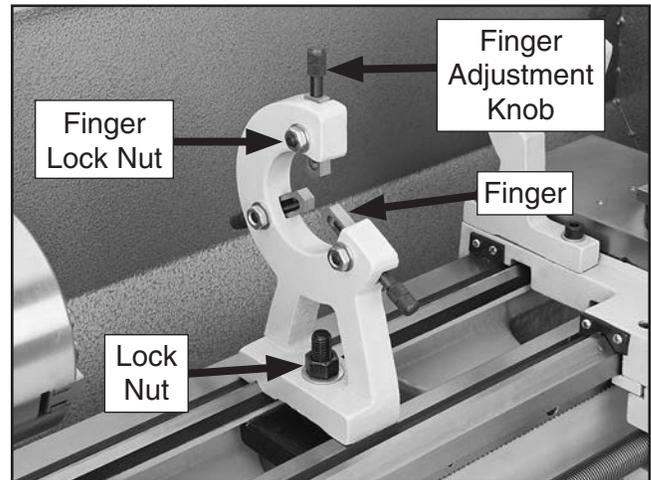

Figure 49. Steady rest components.
Familiarize yourself with the steady rest components shown in **Figure 49** to better understand its operation.
3. Loosen the finger lock nuts shown in **Figure 49**, turn the finger adjustment knobs, and adjust the fingers as required for the workpiece.